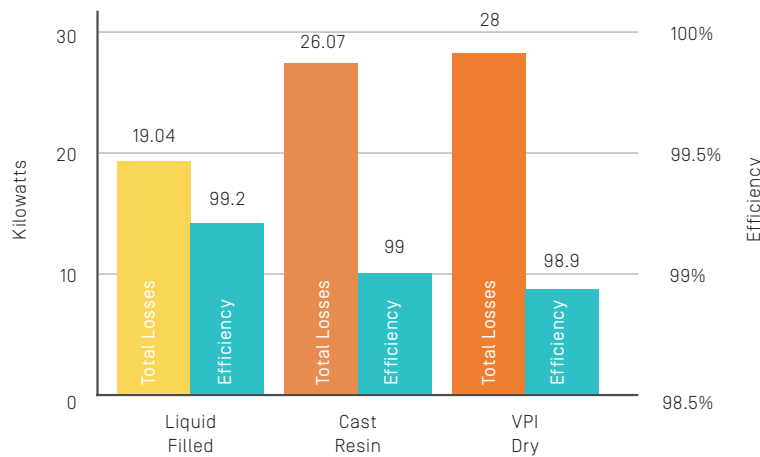

Figure 6: Comparing transformer efficiencies. [A cast resin transformer is a type of dry transformer]¹³
- Wet type transformers are so called as they are cooled with oil. The oil is in contact with the core directly and facilitates heat transfer therefore requiring smaller surface area. This makes it more efficient with efficiencies up to >99% (Figure 6). Modern oils have been developed that address the safety and flammability concerns.